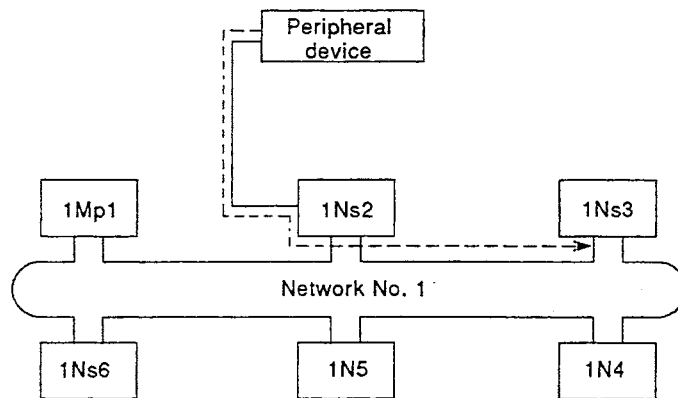

Fig. 8.5 Transient Transmission
(1) Fig. 8.5 shows transient transmission is executed from 1Ns2 to 1Ns3.